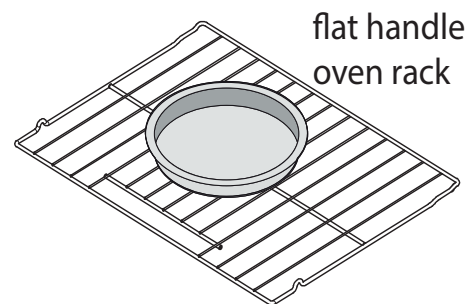
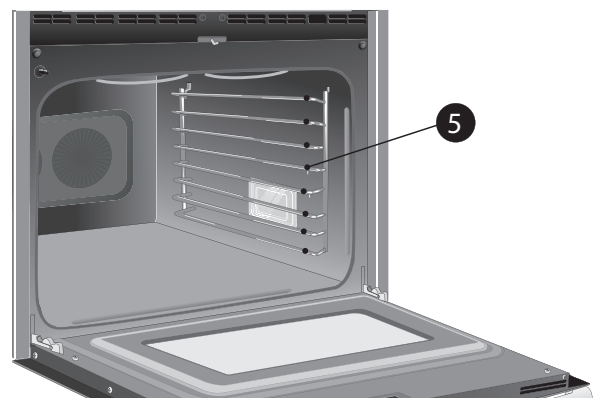

Figure 14: Single rack baking pan position
Figure 15: Oven rack position (5)
- Always place in center of the oven on rack position 5 (Figure 15) and place the food as shown in Figure 14.